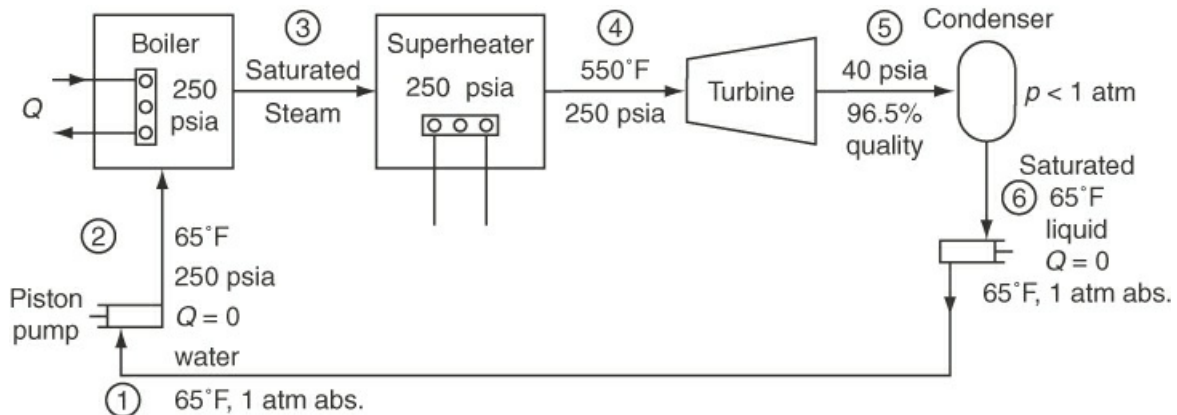

Figure P8.6.11
***8.6.11 A power plant operates as shown in Figure P8.6.11. Assume that the pipes, boiler, and superheater are well lagged (insulated) and that friction can be neglected. Calculate (in British thermal units per pound of steam):